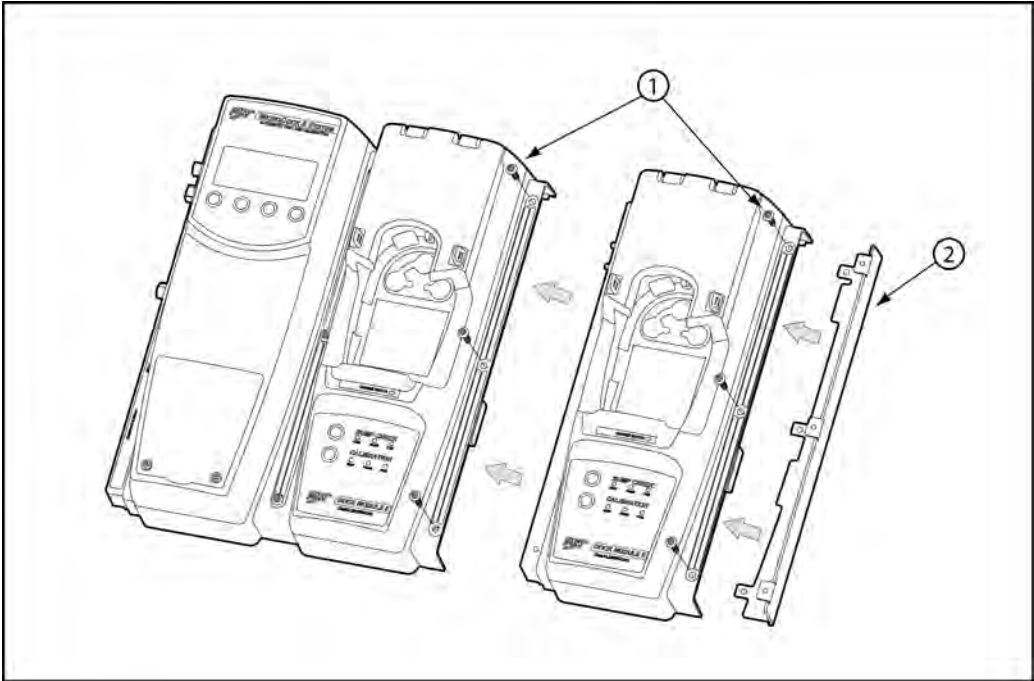

Figure 15. Adding Another Docking Module (Front View)
- Figure 15.,
- After all of the modules have been added, attach the end plate. Refer to Figure 15.